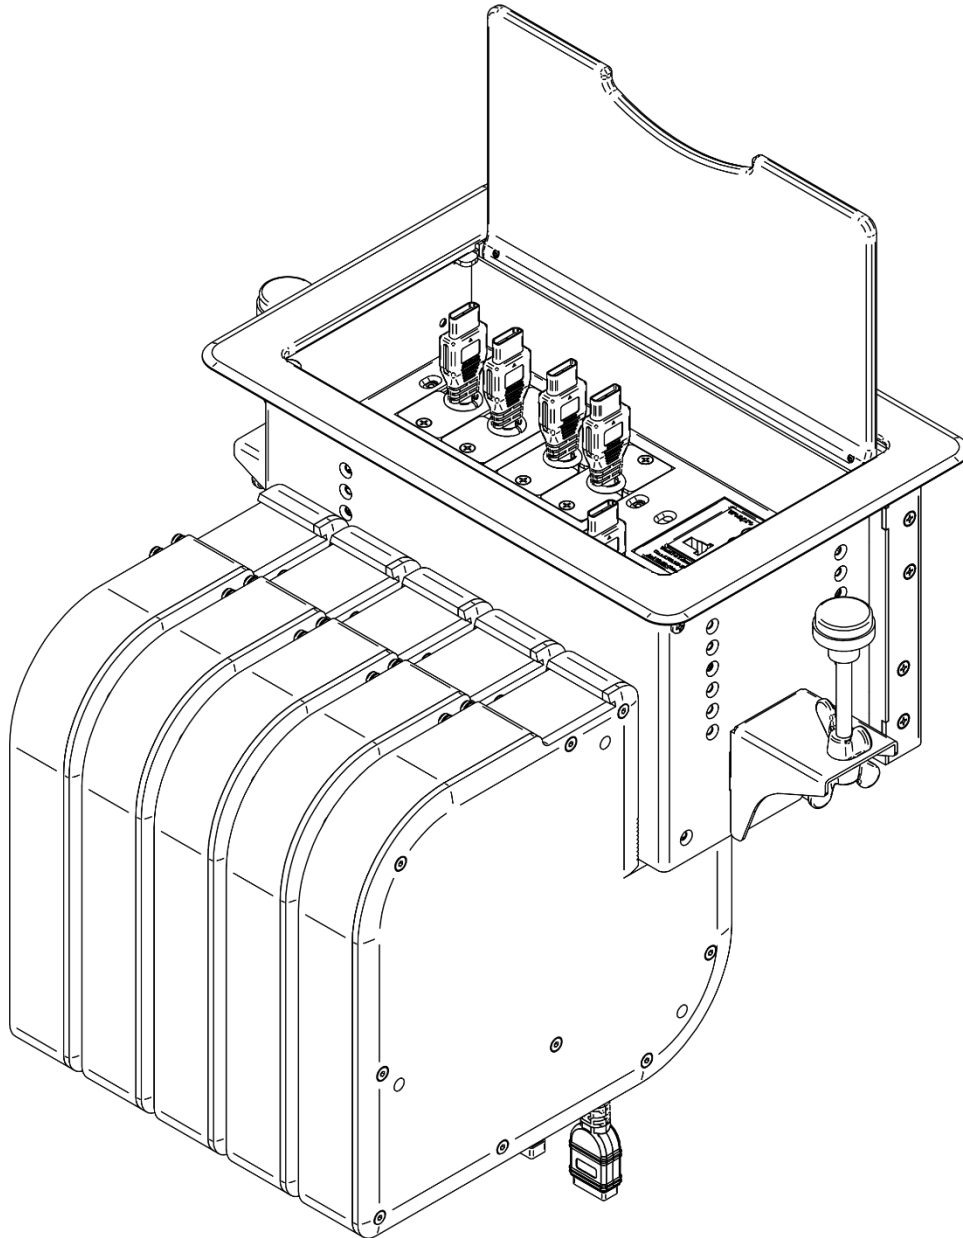

Figure 6: Attaching Several KRT-3 Units to TBUS with Sliding Cover
- For TBUS units with a sliding cover (for example, the Kramer TBUS-10xl), attach the KRT-3 units side-by-side to the front side of the TBUS enclosure (Figure 6):